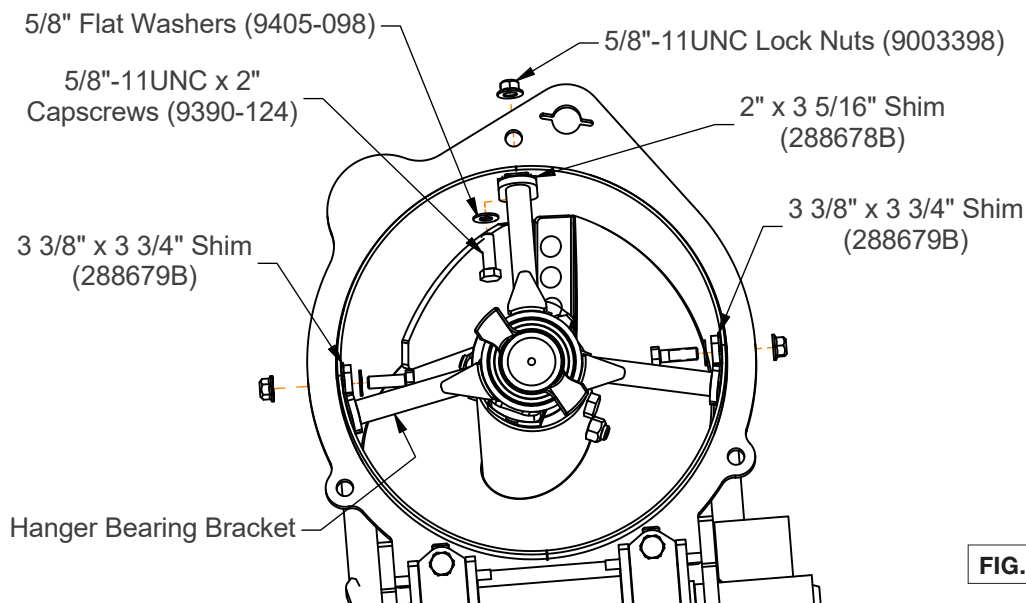

FIG. 4-5
2. Remove the three 5/8"-11UNC x 2" capscrews (9390-124), 5/8" flat washers (9405-098), 5/8"-11UNC lock nuts (9003398) and shims that secure the hanger bearing bracket to the auger tube. (Fig. 4-5)